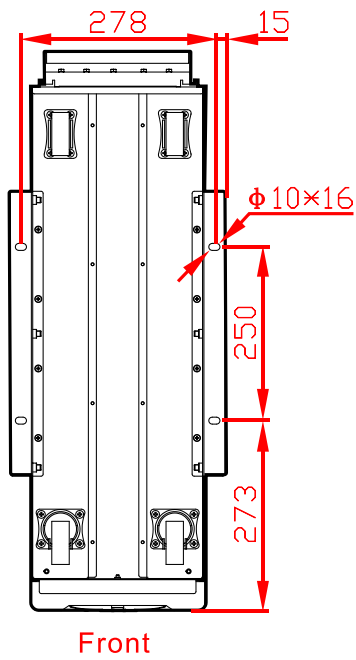

Figure3-8 10/10S/10T/15/15S/15T/20/20S/20T installation holes size of pedestal (bottom view, unit: mm)
The wiring terminals recommend type as shown in Figure3-8. If users have additional terminals required, please check dimensions to ensure proper selection according to Table3-9.
- Step 2 Drill $4\phi 10$ holes on the ground by impact drill according to the installation holes size of pedestal. The pedestal installation holes size of each model is as shown in Figure3-8, Figure3-9 (drilling deviation $\pm 2\text{mm}$). Install expansion bolts M8. The structure and installation for the expansion bolt is as shown in Figure3-10.